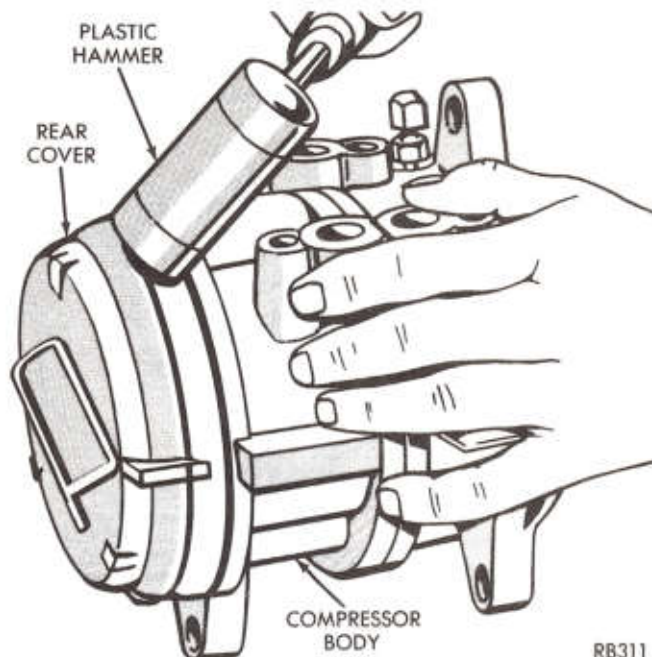

Fig. 9—Removing Rear Cover
- (9) Remove rear cover by tapping the outside diameter of the cover with plastic hammer (Fig. 9).